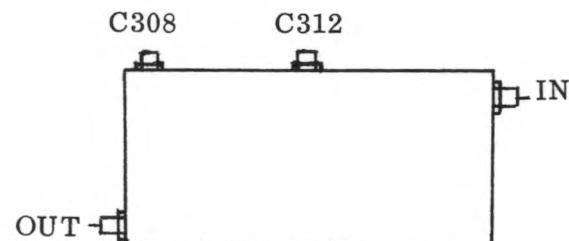

Fig. 16
4.3.2 Remove P303 from the CIA P.C. board. Now carefully adjust each trimmer on the CIA sound trap box ( see Fig. 16 ) for minimum sound carrier level as indicated by the meter or analyzer. A level of -35 dB or lower, relative to the video carrier level, is satisfactory for sound carrier regulation.